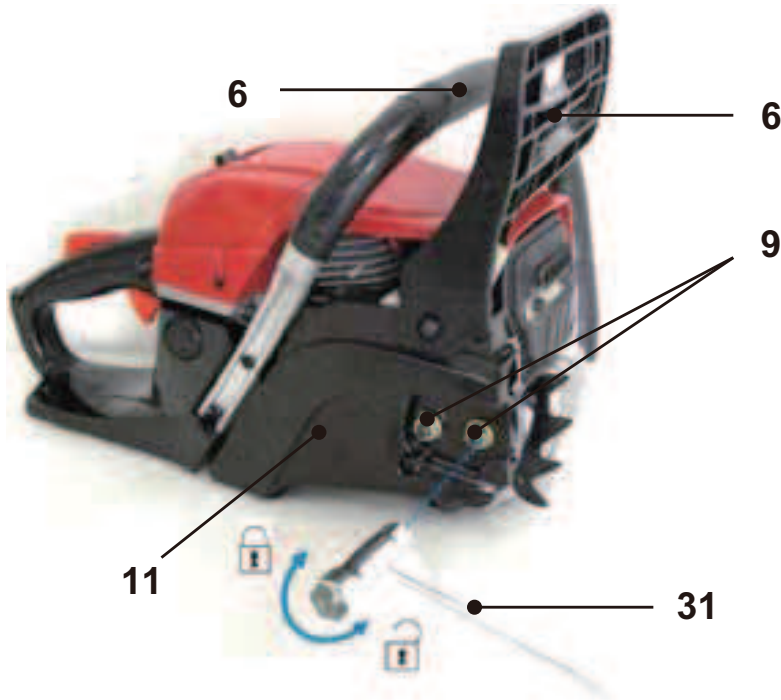

Fig. 1
3. Loosen the retaining nuts **(9)** with the multi tool **(31)** and remove them together with the cover **(11)** (Fig. 1).